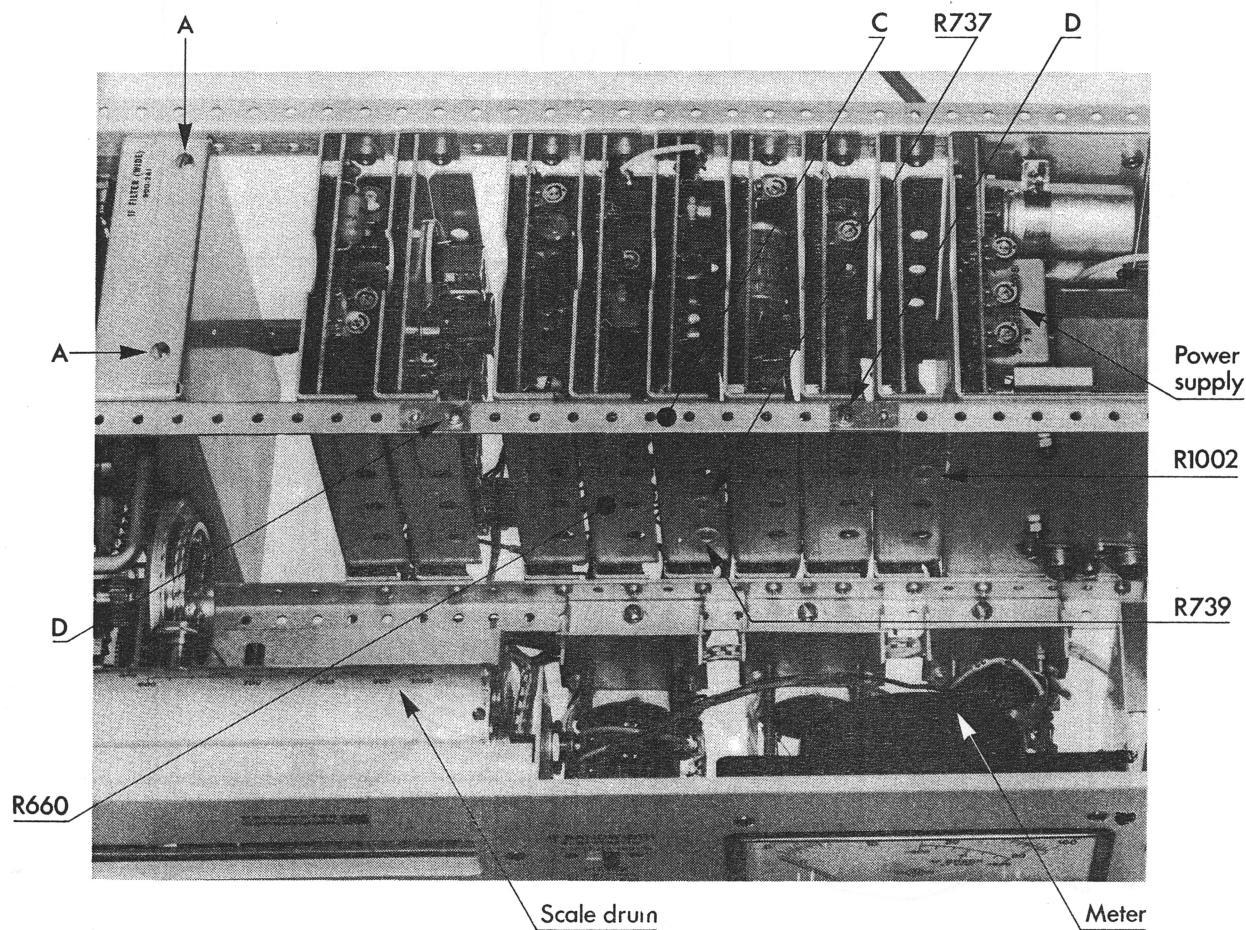

Fig.G7.
- 89) Using a trimming tool, adjust potentiometer R660, shown in Fig.G7, until the DC DVM indicates +10 V dc $\pm 0.5\%$.
- 108) Using a trimming tool, adjust the potentiometer R737, shown in Fig.G7, until the METER deflects to the IF CHECK mark.
- 134) Using a trimming tool, adjust potentiometer R1002, shown in Fig.G7, until the METER on the AFM2 indicates zero.